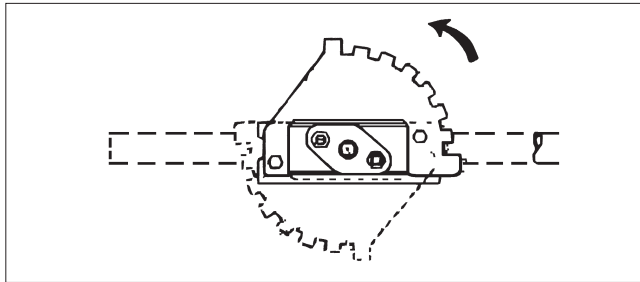

Figure 11.
11. For valves with a cover plate, install new gasket (54), and secure cover plate to valve body using screws (55). To ensure even gasket loading tighten screws, in an alternating sequence to torque in (**Table 3**).
12. If the handle ratchet plate has been removed from the valve, reinstall it in the orientation shown in (**Figure 11**). Install lock washers and screws in the two bonnet holes. Do not tighten the screws until the stops are set. (See **SETTING HANDLE STOP** Section or **ACTUATOR MOUNTING INSTRUCTIONS** Section.)
13. Place the compression plate (10) over the shaft (4) and studs (14). Install the nuts (15), but do not tighten.
15. With the valve still closed, tighten the nuts (15) on the compression plate evenly until the shaft seals are adequately compressed to prevent leakage. This should require tightening the nuts approximately 1-1/2 to 2 full turns after they have both come into contact with the compression plate.
If it is necessary to remount the handle 180 degrees from its standard direction (**See Figure 11**).